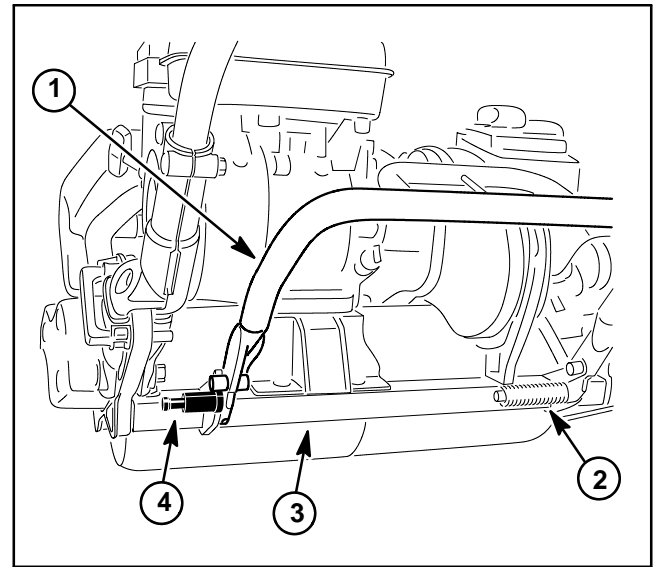

Figure 19
3. Use a nutdriver or small diameter pipe over the end of the torsion spring. Push the torsion spring down and in to release spring tension (Fig. 19). Slide torsion spring from pin on rear frame.
6. If necessary, disassemble and remove service position locking pin assembly (items 7, 8, 9 and 10) from rear frame.
2. If service position locking pin assembly (items 7, 8, 9 and 10) was removed from rear frame, install removed locking pin components.
3. Position kickstand inside the machine frame. Insert cap screw (item 4) through the rear frame, kickstand and spacer. Thread flange nut on cap screw and tighten to secure kickstand.
5. Pivot kickstand up and hold against the frame stops. Use a nutdriver or small diameter pipe over the end of the torsion spring. Push the spring end down and out to install spring (Fig. 19).